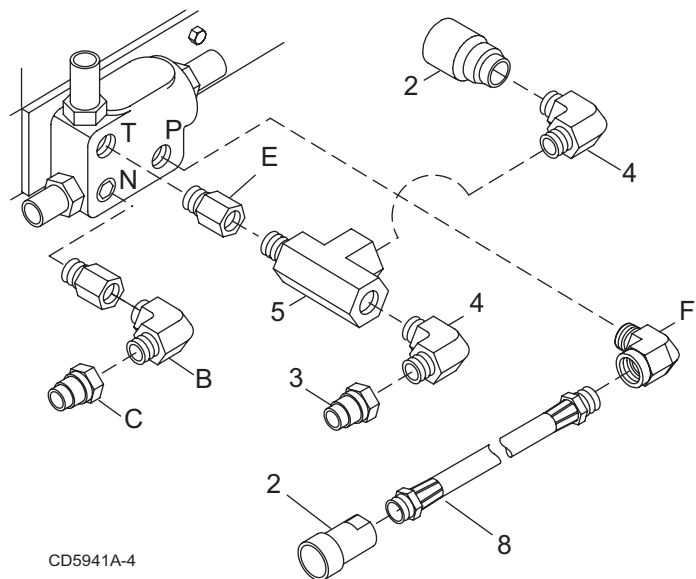

Figure 15. Hydraulic Fitting Installation
1. Rotate elbow (B) and male quick coupler (C) in the PBYP port (N) to point to the rear. See Figure 15.
2. Attach tee (5) to adapter (E) and point center port to the front.
3. Attach elbow (4) and male quick coupler (3) to the end of tee (5). Point elbow and quick coupler to the rear.
4. Attach elbow (4) and female quick coupler (2) to the center port of tee (5). Point quick coupler upward.
5. Rotate elbow (F) in the PRESSURE port (P) to point to the rear.
6. Attach female quick coupler (2) to hose (8). Attach hose (8) to elbow (F).